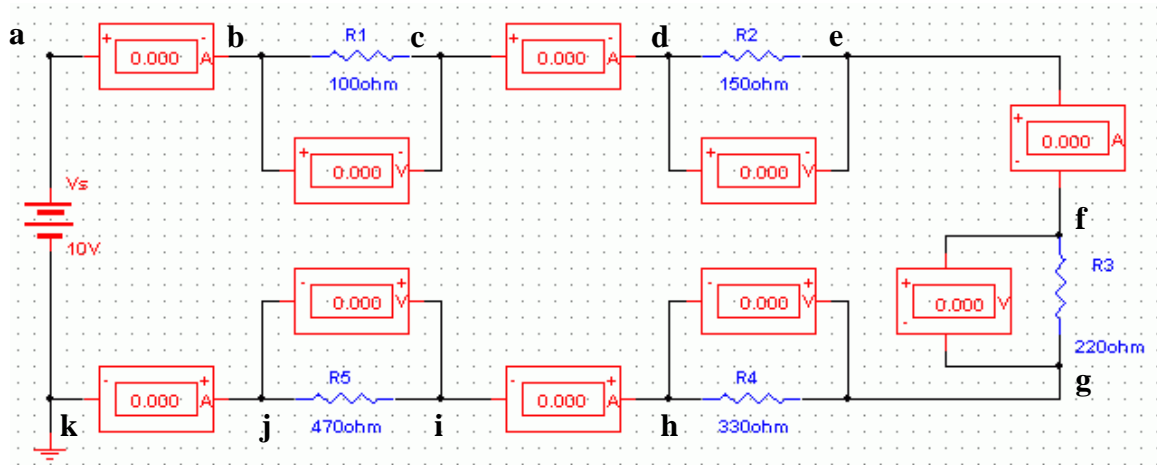

Figure 2: Resistors in series
2. Draw Figure 2. Run the simulation and record the currents and voltages.